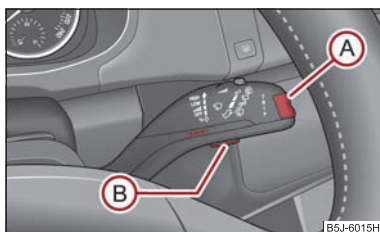

Fig. 21 Information display: Control elements
- You can activate the **MAIN MENU** by pressing the rocker switch (A) ⇒ fig. 21 for more than 1 second.
- You can select individual menu points by means of the rocker switch (A). When the pushbutton (B) is briefly pressed, the information you have selected is displayed.